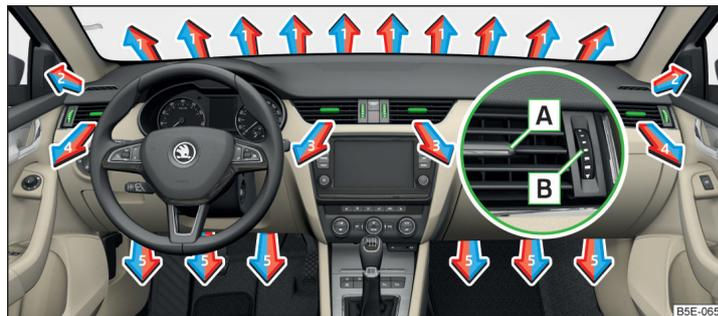
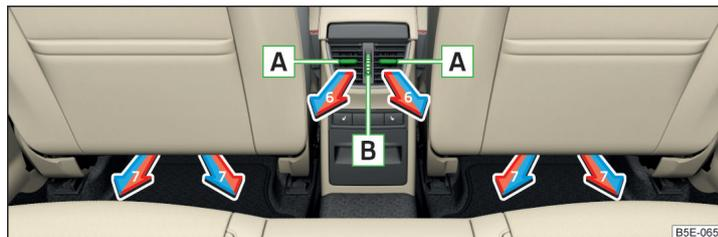

Fig. 137 Air vents at the front
Fig. 138 Air vents at the rear
▶ Fig. 137 and **6** ▶ Fig. 138, and the vents can be opened and closed individually. ▶
The setting of the airflow direction is carried out by moving the adjustment element **A** » Fig. 137 or » Fig. 138 in the desired direction.
- › To **open**, turn the controller **B** » Fig. 137 or » Fig. 138 upwards.
- › To **close**, turn the controller **B** » Fig. 137 or » Fig. 138 downwards.
Set the direction of the air outlet	Air vents » Fig. 137 and » Fig. 138